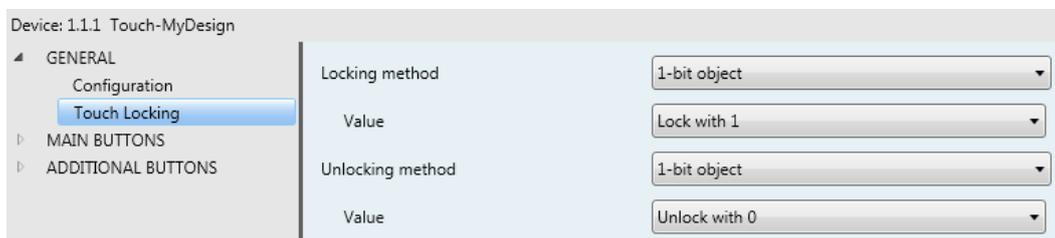

Figure 9 Touch locking (General)
• **Touch locking.** This function permits locking (i.e., making them useless) or unlocking the touch buttons of the touch panel, with the possibility of setting the following fields (from the “Touch locking” screen, which will become visible after enabling this function; see Figure 9):